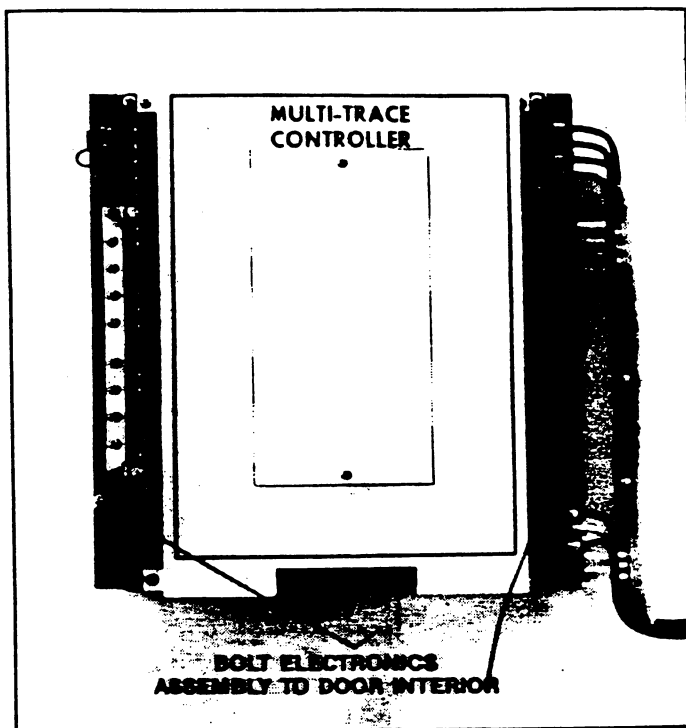

FIGURE 4-8
4. Bolt assembly to interior panel door as shown in Figure 4-8.